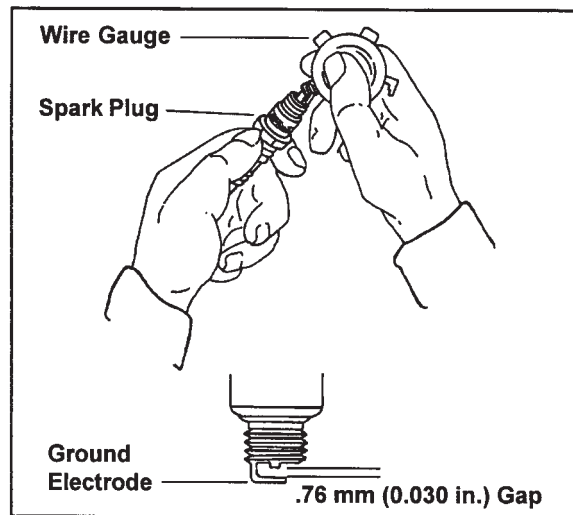

Figure 10. Servicing Spark Plug.
- Check the gap using a wire feeler gauge. Adjust the gap to **.76 mm (0.030 in.)** by carefully bending the ground electrode. See Figure 10.